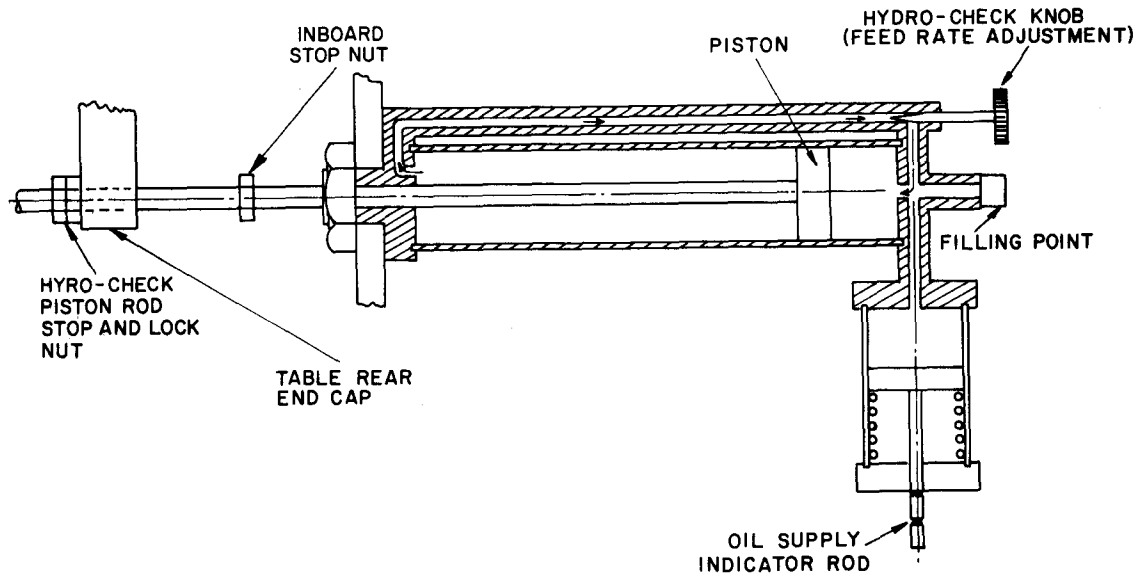

Figure 3-2. Hydro-Check
e. Set the Hydro-Check piston rod stop nut (see figure 3-2) until it is flush against the table rear end cap and lock it in place with the outboard lock nut.